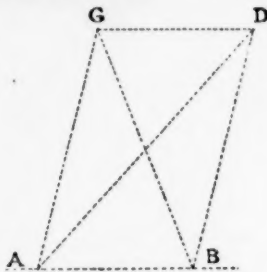

Fig. 17.
B. Then the figure A C D B will be a *parallelogram*, since its opposite sides are equal; but it may not be a *rectangle*. As a test, the diagonals should be measured. If they are unequal, the figure, instead of being rectangular, has the form of which Fig. 17 is an exaggerated representation. To remedy this, move the stake D, at the farthest extremity of the longest diagonal, toward the stake C, a distance about equal to two-thirds of the difference in length between the two diagonals. Then move the stake C an equal distance in the same direction, so as to keep the length of that side of the rectangle correct. Measure the diagonals again, and if now found to be equal, verify all the measurements, then drive the stakes firmly and set copper tacks as before. This preliminary rectangle having been accurately marked out, the rest of the work follows easily.